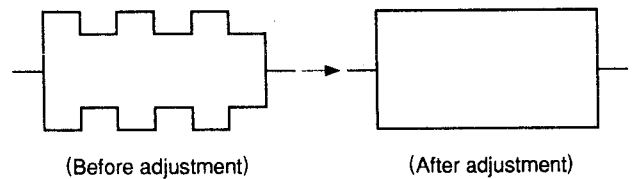

Fig. 6
4. Adjust L120 until the waveform become flat. (Fig. 6)